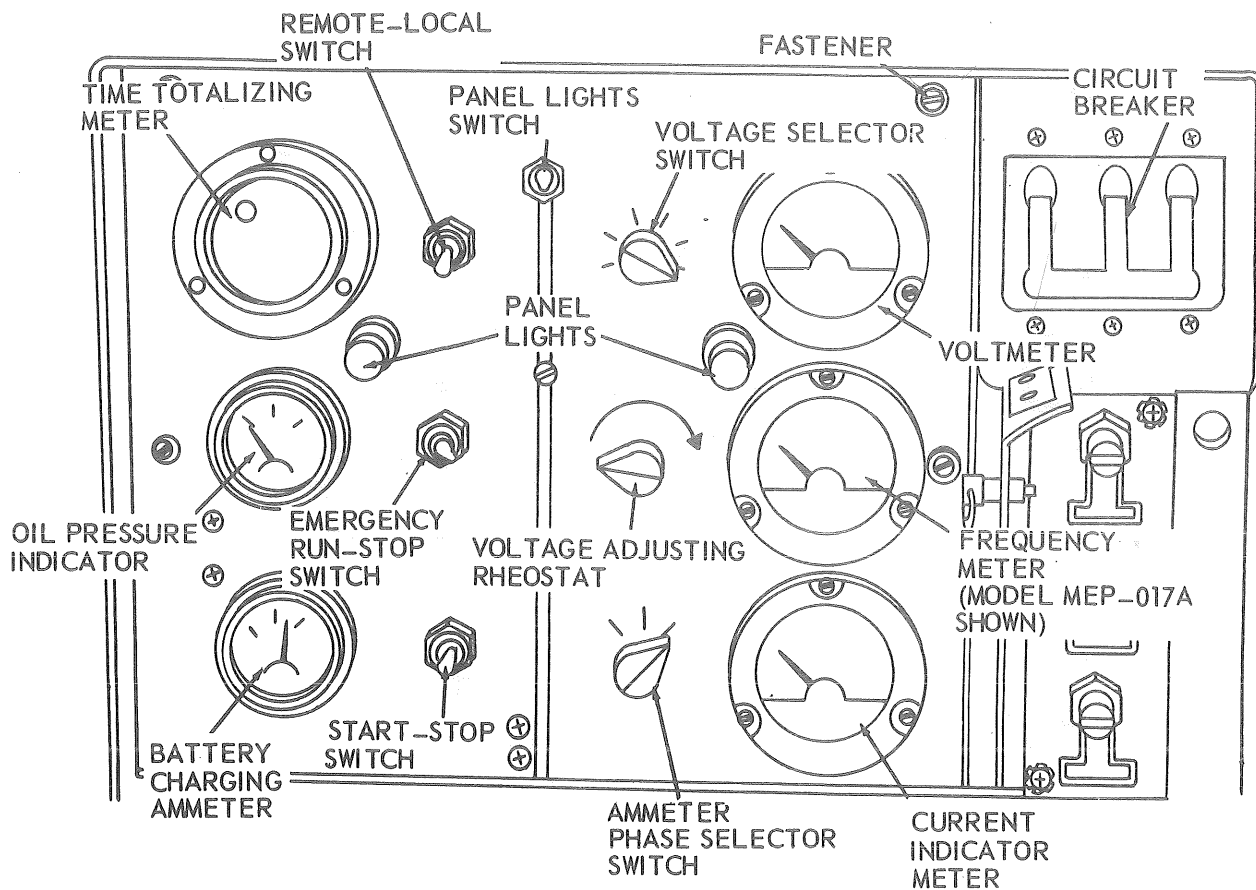

Figure 3. Generator control panel, controls, instructions, and panel lights.
4. Perform operating procedures. (Refer to fig 3, and TM 5-6115-332-14, para 2-2b(5) and d(2).)